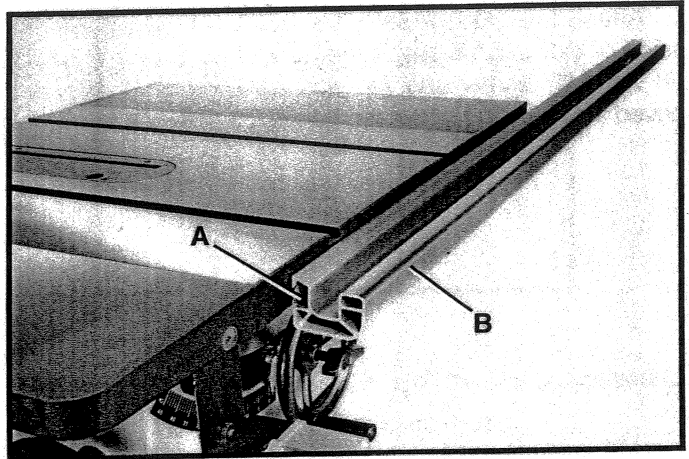
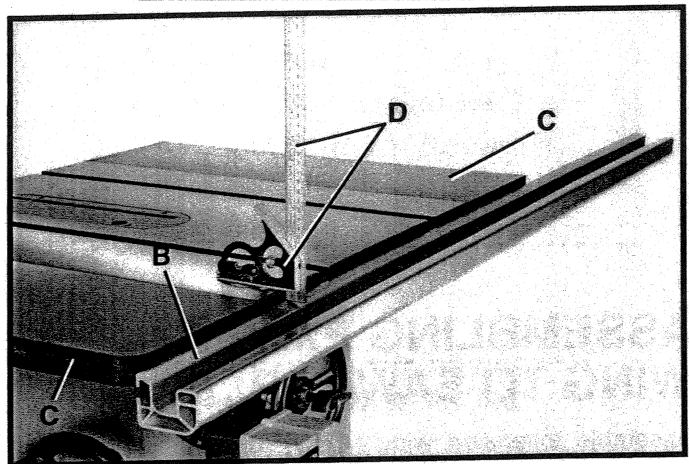

Fig. 11
Fig. 12
2. Starting at the extreme right side of the saw, carefully slide front guide rail (B) Fig. 11, onto the heads of the three carriage bolts (A), one of which is shown. **NOTE:** Make certain the heads of the carriage bolts are inside the channel at the rear of the guide rail. **IMPORTANT:** Slide the guide rail (B) Fig. 12, onto the carriage bolts (A) until the left edge of guide rail is flush with the edge of the left extension wing (C).
3. Before tightening the hardware holding the guide rail to the saw table, proceed as follows: Starting inward at both sides of the saw table, and using a square (D) Fig. 12, check to make certain guide rail (B) is level with the saw table and extension wings (C). Tighten rail mounting hardware.